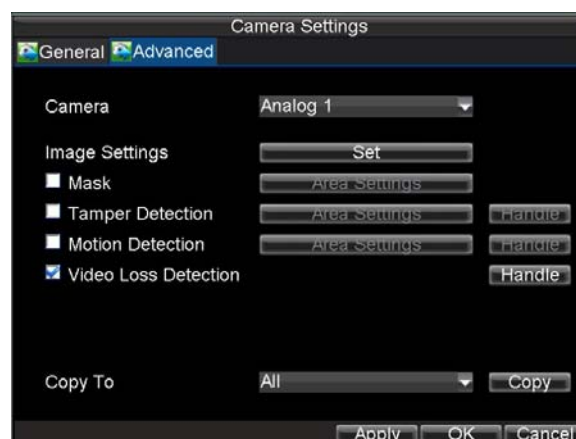

Figure 13. Camera Settings Menu
4. Check the **Video Loss Detection** checkbox to enable feature, as shown in Figure 13.